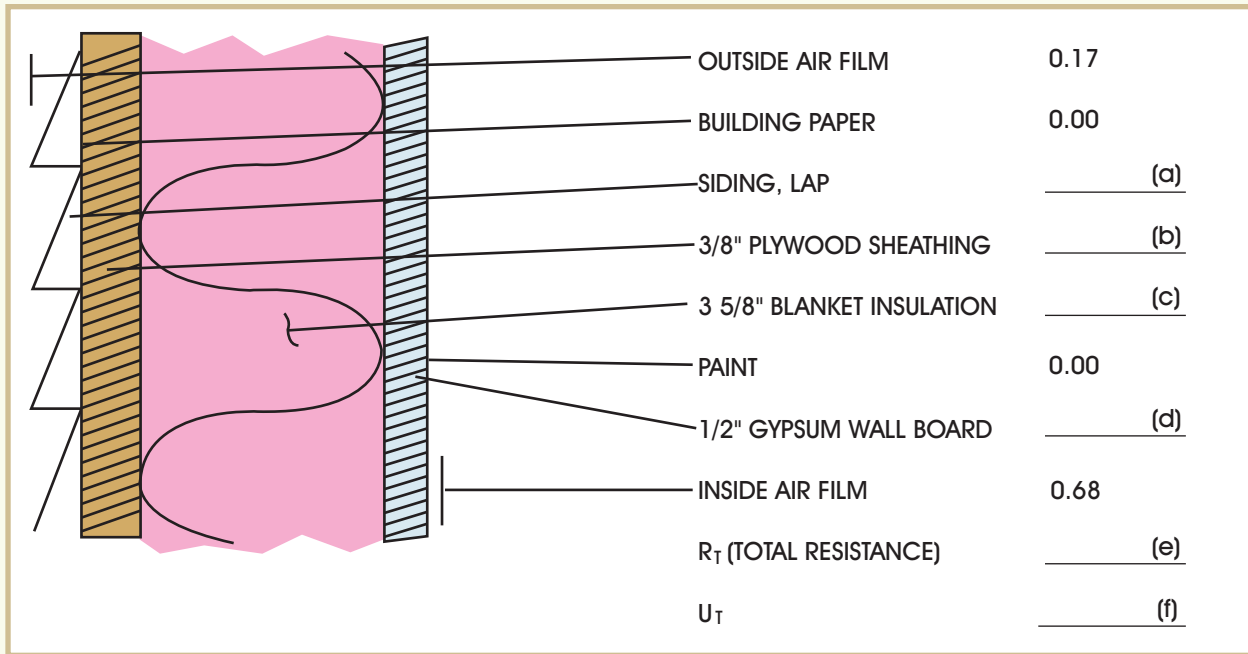

FIGURE 3—This is a cross-sectional view of the home's exterior wall.
Step 1: Figure 3 shows a cross-section of the home's exterior wall. Begin this exercise by calculating the wall's U-value. You can insert R-values directly into the spaces provided on Figure 3 by using the R-values for common building materials listed in Table 1. After you've completed calculating the total R-value for the wall, remember to convert the total R-value to a U-value.